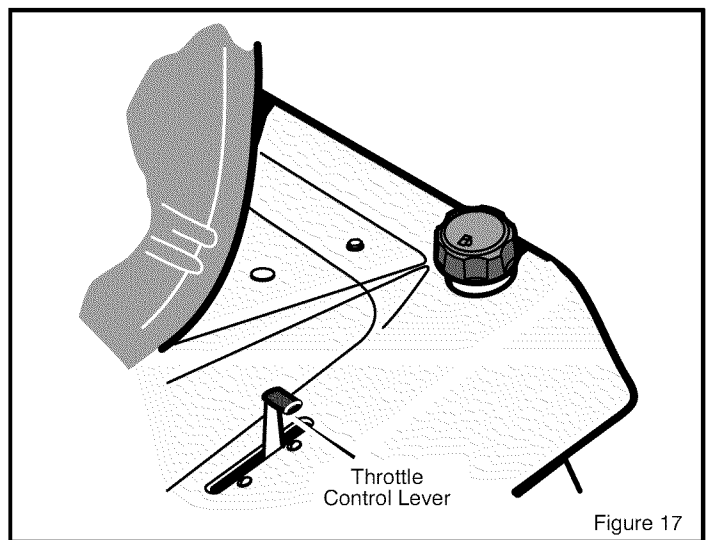

Figure 17
4. Move the throttle control completely forward to the CHOKE N or FAST position (see Figure 17).